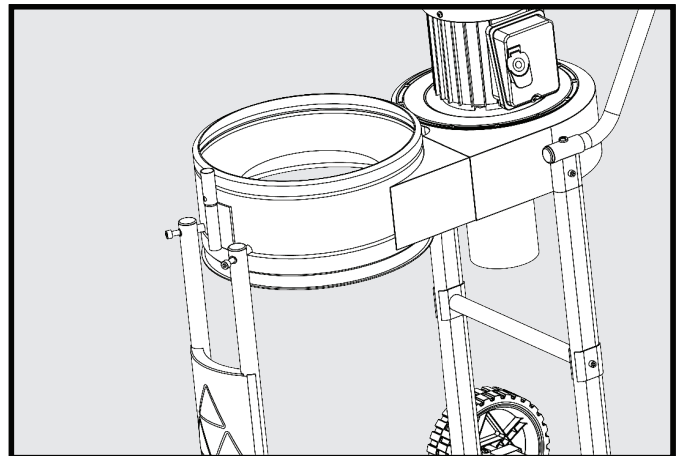

FIGURE 8
5. Insert M8 x 55mm hex socket head screw (24) through hole and thread into blower housing (Fig 8).